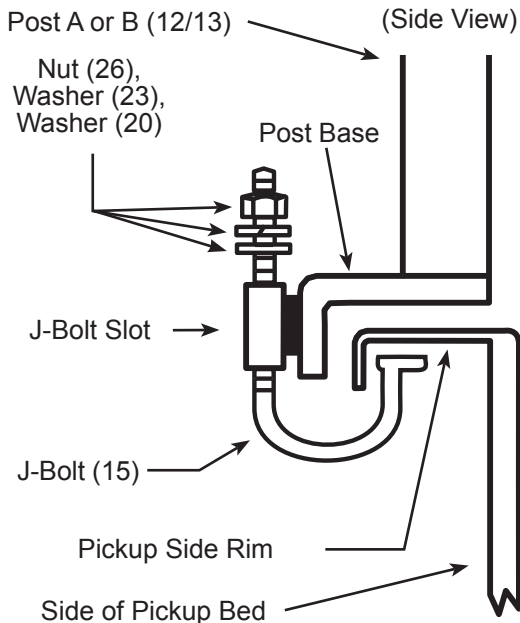

Figure 2
Use the J-Bolt (15) configuration as shown in Figure 2 for bolting the Rack to the truck bed without drilling holes